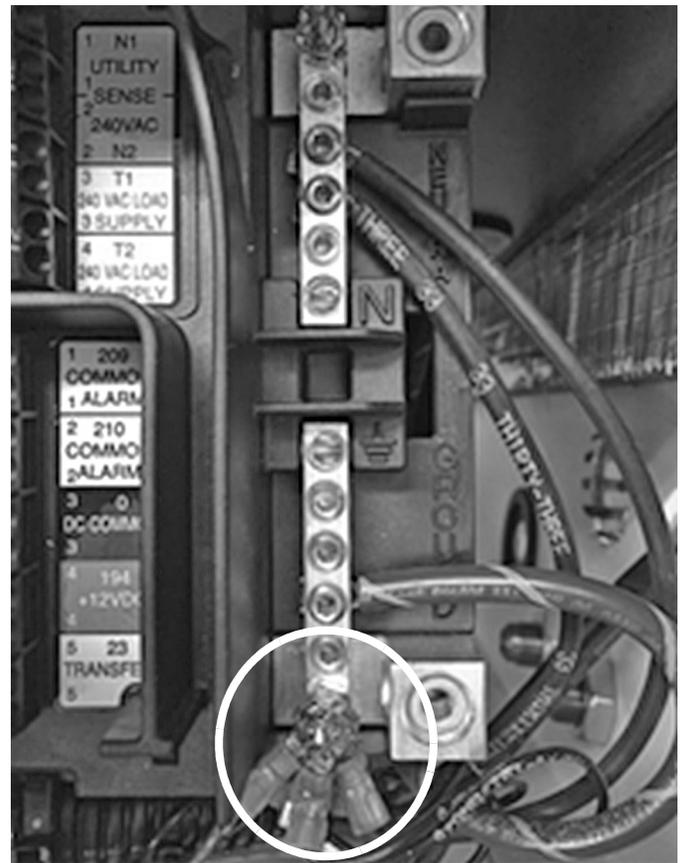

Figure 3-8.
8. Wire gas pressure sensor (see Figure 3-8)